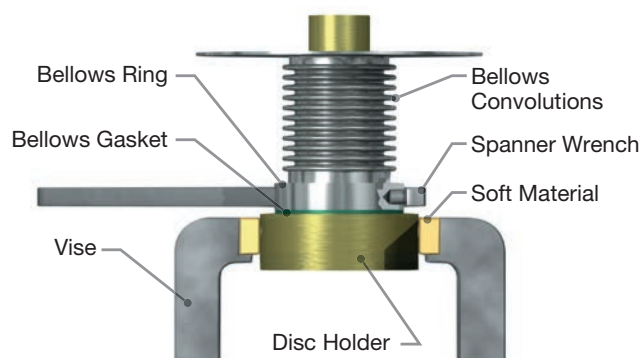

Figure 17: Removing the Bellows Ring
The bellows convolutions (see Figure 17) are very thin and fragile. Take care to protect them from damage.
12. For D through U orifice bellows valves (see Figure 7), the bellows is attached to the disc holder (8) by right-hand threads. Use a special spanner wrench on the bellows ring to remove it by turning counterclockwise (see Figure 17).